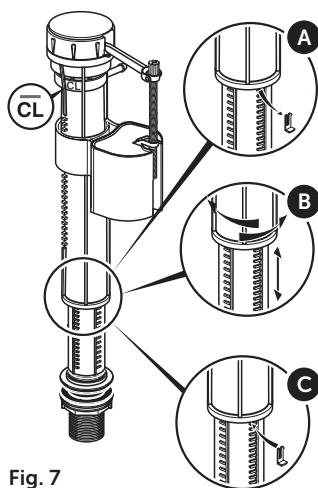

Fig. 7
- Remove locking clip by pushing downwards, (Fig. 7).